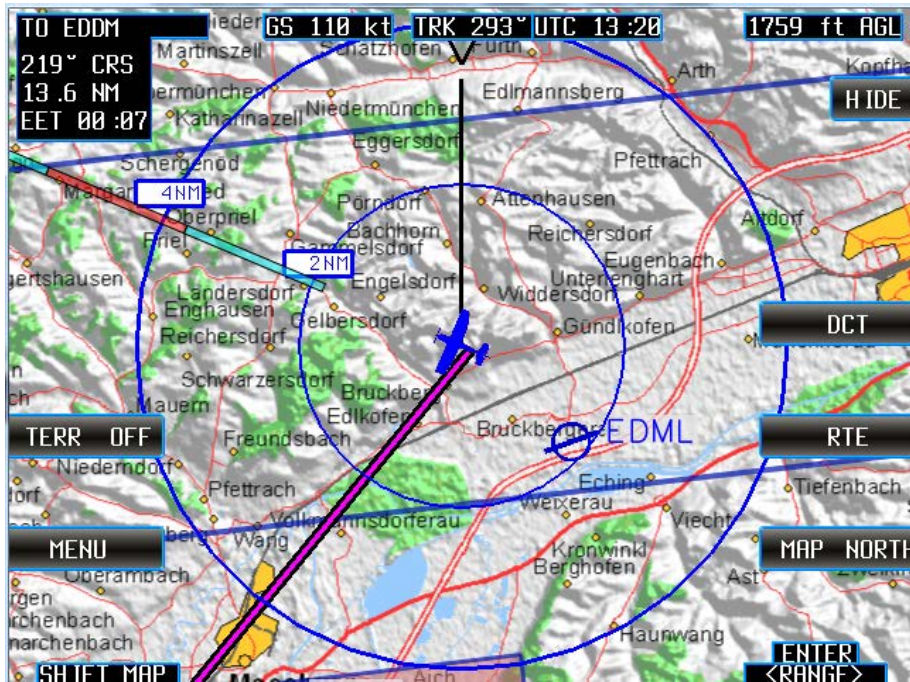

Figure 51: Direct-to "DCT", a Direct-to waypoint is set
- The remaining flight time to that waypoint (Figure 51).